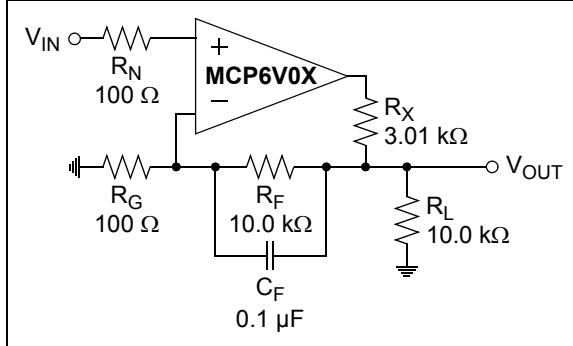

FIGURE 4-9: One Solution To Output Load Issue.
- Add a 3 kΩ resistor at the op amp's output that is not in the signal path; see Figure 4-9